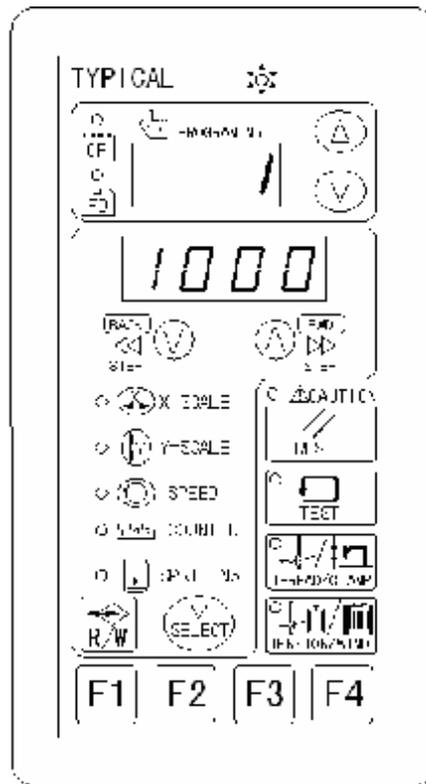

Fig. 5-13
4. When needle No. is displayed on the menu display area, tread the gear 1 of pedal once, the system shall go backward by one needle, and continue to tread the gear 1, then it goes backward by one needle, and continues until it is up to the the first needle of the pattern; also tread the pedal to the gear 2. Starting from the needle No. of needle displayed on the menu display area, the system shall finish sewing the residual needle numbers with the former sewing speed, the menu display area is as shown in Fig.5-13.